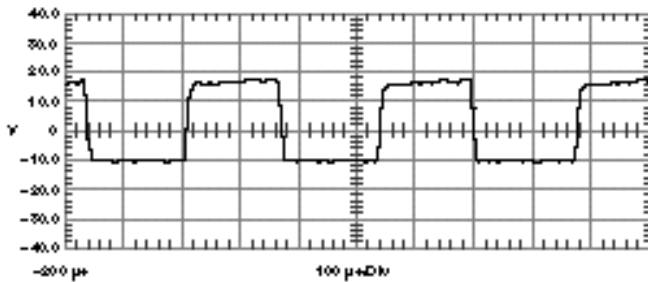

Figure 10
With the VLT powered by the external bus supply use an oscilloscope to monitor the gate drive signals. Place the unit in run with a speed reference of 0Hz. Connect the ground of the scope to the emitter (E) terminal of the IGBT. Place the probe on the gate (G) terminal of the IGBT (see photos 8,9,10). The signal should appear as in Figure 10: